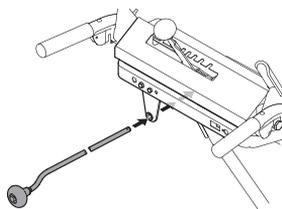

Figure 16
4. Insert chute control rod into the support bracket on rear of the dash panel (Figure 16).